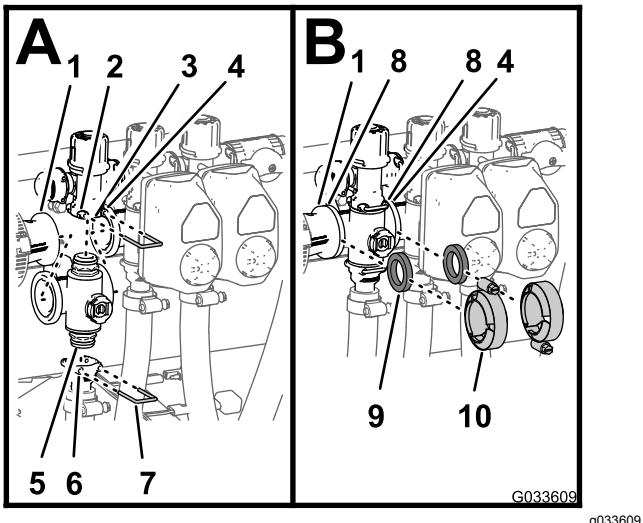

Figure 116
1. Insert the upper end-cap fitting of the manifold valve into the bypass fitting (A of Figure 116).
2. Secure the end-cap fitting to the bypass fitting by inserting a retainer into the socket of the bypass fitting (A of Figure 116).
3. Assemble the outlet fitting onto the lower end-cap fitting of the manifold valve (A of Figure 116).
4. Secure the end-cap fitting to the outlet fitting by inserting a retainer into the socket of the outlet fitting (A of Figure 116).
5. Align a gasket between the flanges of the reducer coupling and the section valve manifold (B of Figure 116).
6. Assemble the reducer coupling, gasket, and section valve manifold with a clamp and tighten by hand (B of Figure 116).
7. If installing the 2 left most section valves, align a gasket between the flanges of the 2 adjacent section valve manifolds (B of Figure 116).
8. Assemble the and 2 adjacent section valve manifolds and gasket with a clamp and tighten by hand (B of Figure 116).